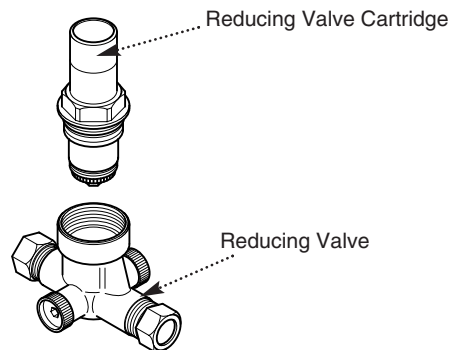

Fig. 48
20. Turn off the mains water supply. Unscrew the cartridge from the valve body and rinse thoroughly in clean water (Fig. 48).